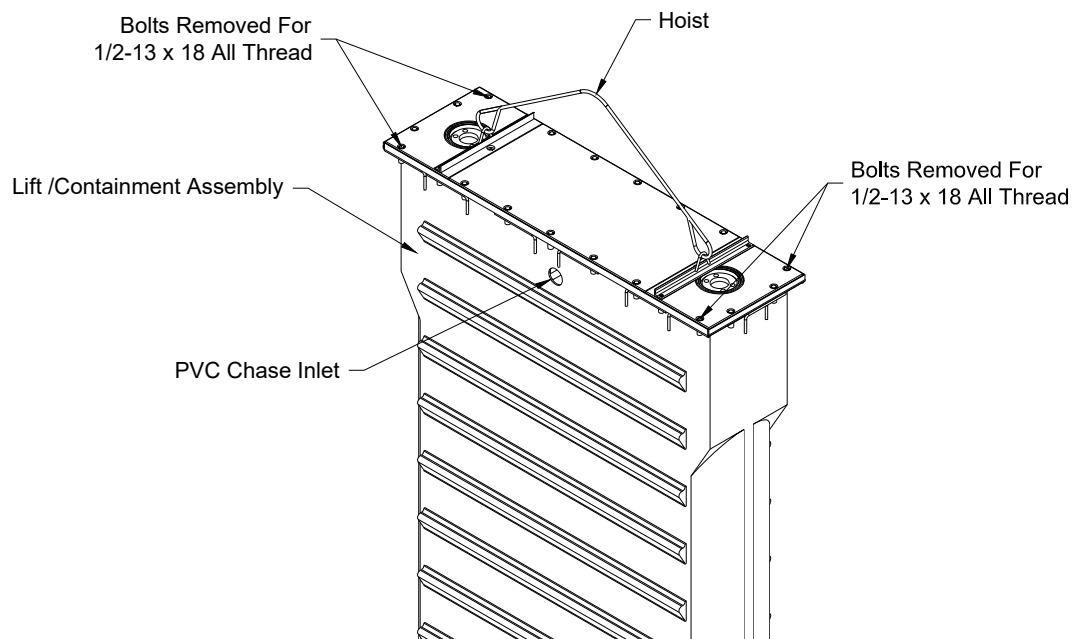

Fig. 3
1. For best balance of lift / containment assembly while lowering into excavation, sling using the shipping straps provided. See **Fig. 3**. DO NOT remove or loosen any of the bearing assembly bolts at this time.
3. Remove the outer two bolts from each end of the center cover plate and replace with 1/2-13 x 18 threaded rods. Attach two 6 x 6 timbers using 1/2-13 nuts and washers, to support the lift / containment assembly on the existing floor or forms. Remove the shipping straps and replace the bolts. Torque the bolts to 60 ft-lbs. Bend concrete tie anchors out 90 degrees and down 45 degrees. Refer to **Figures 3 and 4**.